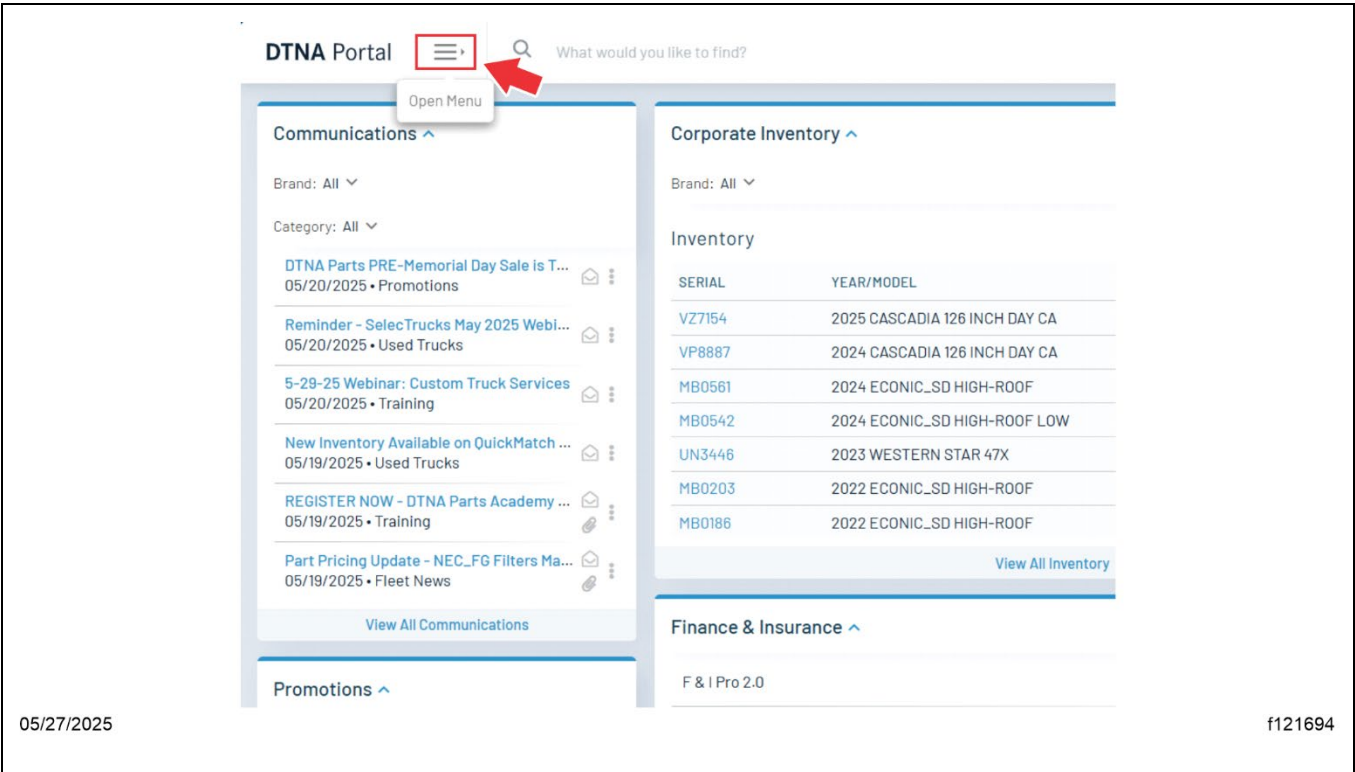

Fig. 1, Opening the DTNA Portal Menu
- 1. Go to the DTNA Portal. Select the 'Open Menu' icon at the top left of the screen to open the sidebar. See Fig. 1.